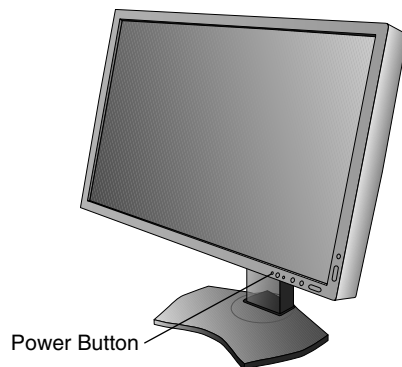

**Figure D.1**
- Slide down the cable cover (**Figure D.1**).